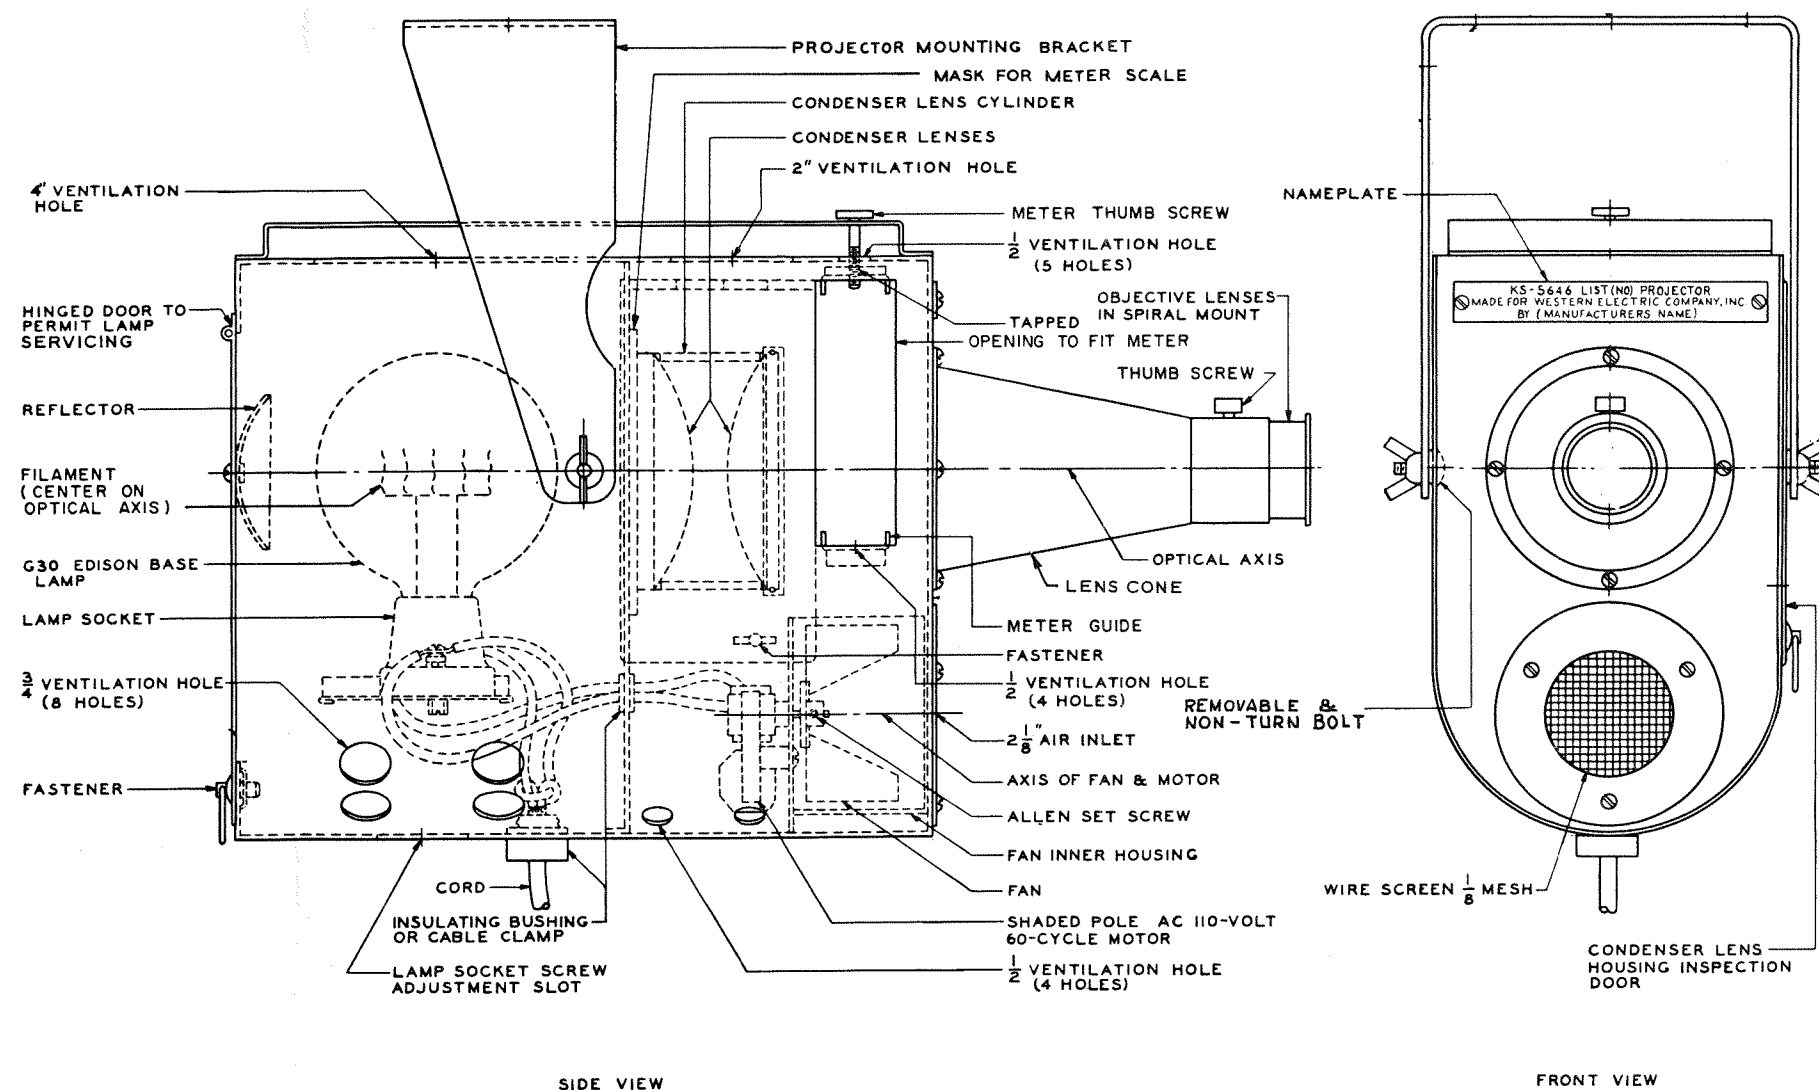

Fig. 3 - KS-5646 L1 Projector
3.01 The KS-5646 List 3 projector consists of a lamp compartment, adjustable lampshelf and socket, mask for meter scale, condenser lens, meter compartment, objective lens, and motor-driven fan. Details are shown in Fig. 2. The List 3 projectors are slightly smaller than the KS-5646 List 1 (Fig. 3) and the earlier KS-5489 projectors. The List 3 projectors also have the improved features of an adjustable lampshelf, a larger objective lens cone, and an objective lens with a considerably larger lens opening. The List 3 projector does not have the reflector which was provided in the earlier types. Insofar as mounting is concerned, the KS-5646 List 3 projector and the KS-5646 List 1 and the earlier KS-5489 projector are interchangeable.